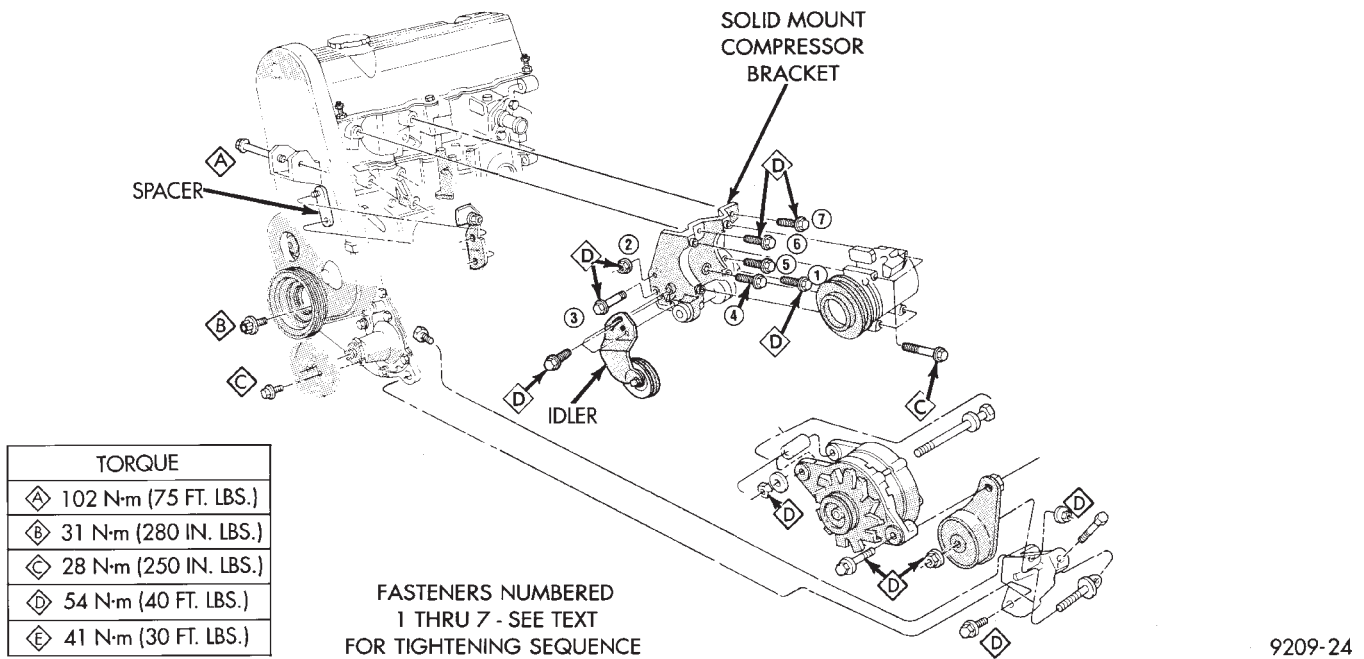

Fig. 6 Solid Mount Compressor Bracket 2.5L Engines
When service procedures require solid mount bracket removal and installation for example: cylinder head removal, etc., it is important that bracket fasteners numbered 1 through 7 (Fig. 6) be removed and installed in sequence, as instructed in Removal and Installation.
- (1) Remove (and install/adjust) belts, Refer to Accessory Drive Belts in Cooling System, Group 7.
- (2) Remove air conditioning compressor (in vehicle with lines and set aside) (Fig. 6).
- (3) Remove generator pivot bolt and remove generator (in vehicle: turn wiring side up and disconnect, then rotate generator, pulley end towards engine and remove).
- (4) Remove air conditioner compressor belt idler.
- (2) Remove five side mounting bolts #1, #4, #5, #6, and #7 (Fig. 6).
- (3) Remove front mounting nut, #2, and remove (or loosen) front bolt #3*.
- (4) Rotate solid mount bracket away from engine and slide on stud (#2 nut mounting stud) until free. Front mounting bolt and spacer will be removed with bracket.